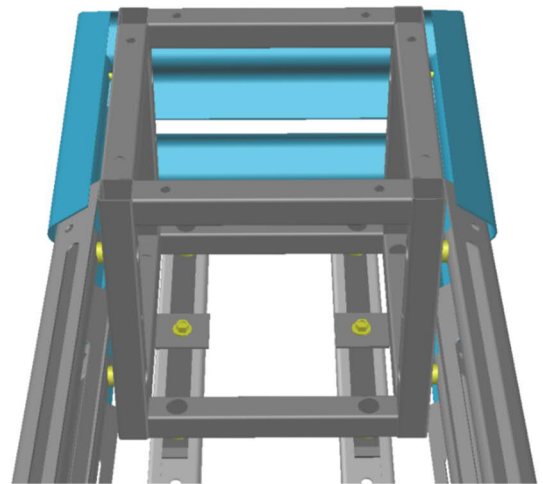

Figure 37
*Please note: It is important to ensure that the head pieces are bolted to the sled in the middle and symmetrically (see Figure 37).*